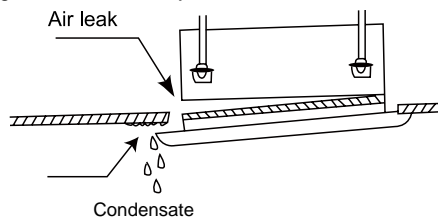

Fig.32
- (2). Improper screwing of the screws may cause the troubles shown in Fig.32.